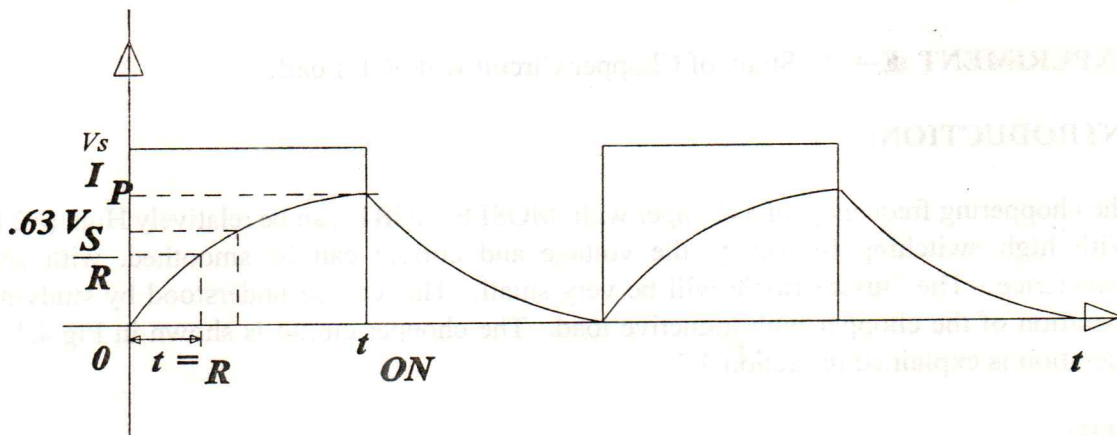

Fig.E.4.2 Voltage and current waveform.
7. If necessary adjust the duty cycle ratio or the value of the inductance so that the current is discontinuous. The voltage and current waveforms will be as shown in Fig.E.4.2.